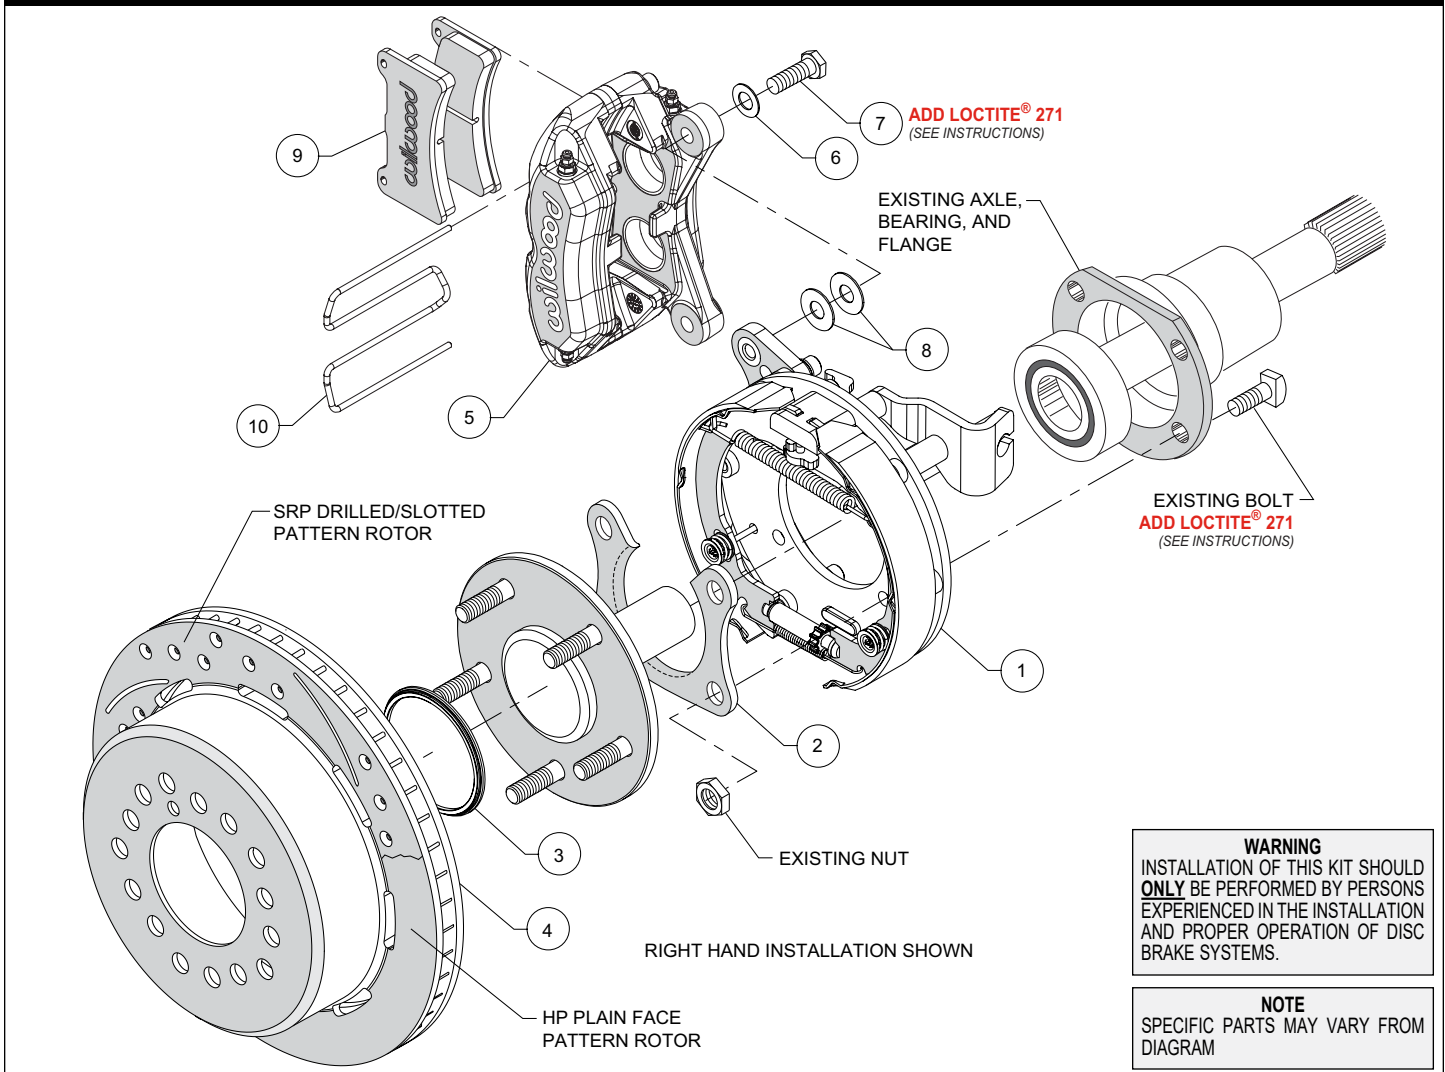

Figure 1. Typical Installation Configuration
**NOTE:** Numbers in parenthesis refer to the parts list and Figure 1 on the preceding pages.
- Orient the bracket assembly (1) as shown in Figure 1 and Photo 1 and slide it onto the axle. Insert the axle and bracket into the axle housing. Ensure that the bracket assembly backing plate fits flush against the axle housing flange.
- Install the bearing retainer (2) with the opening pointing upward and the lip facing inward (toward the bearing), as shown in Figures 1 and 4, and Photo 2. Secure retainer and bracket assembly to the axle housing flange using the Original Equipment Manufacturer (OEM) bolts and nuts, Figure 1. Apply red *Loctite*® 271 to the OEM bolt threads and torque to OEM specifications.
- Slide the rotor registration adapter (3) onto the axle register on the axle flange with the smaller O.D. facing toward the rotor/hat (4), Photo 3. Align the correct hole pattern in the rotor/hat with the stud pattern on the axle flange and slide into place, Figure 1 and Photo 4. **NOTE:** The rotor/hat must fit flush against the axle flange or excessive rotor run out may result. Install three lug nuts (finger tight) to keep the rotor/hat assembly in place while continuing with the installation. **NOTE:** Some OEM and after market axles come with stud sizes larger than 0.50" diameter. Verify stud size and have a qualified machine shop drill the bolt circle of the hat/rotor to the correct stud size, if necessary.
- NOTE:** Please reference the caution statement at the beginning of the assembly instructions. Mount the caliper (5) onto the caliper mounting bracket (1) using bolts (7) and washers (6), as shown in Figure 1.
**For 2.75 offset:** Initially place three .035" thick shims (8) on each bolt between the caliper and the bracket, Photo 5.
**For 2.81 offset:** Initially place one .035" thick shim (8) on each bolt between the caliper and the bracket, Photo 6.